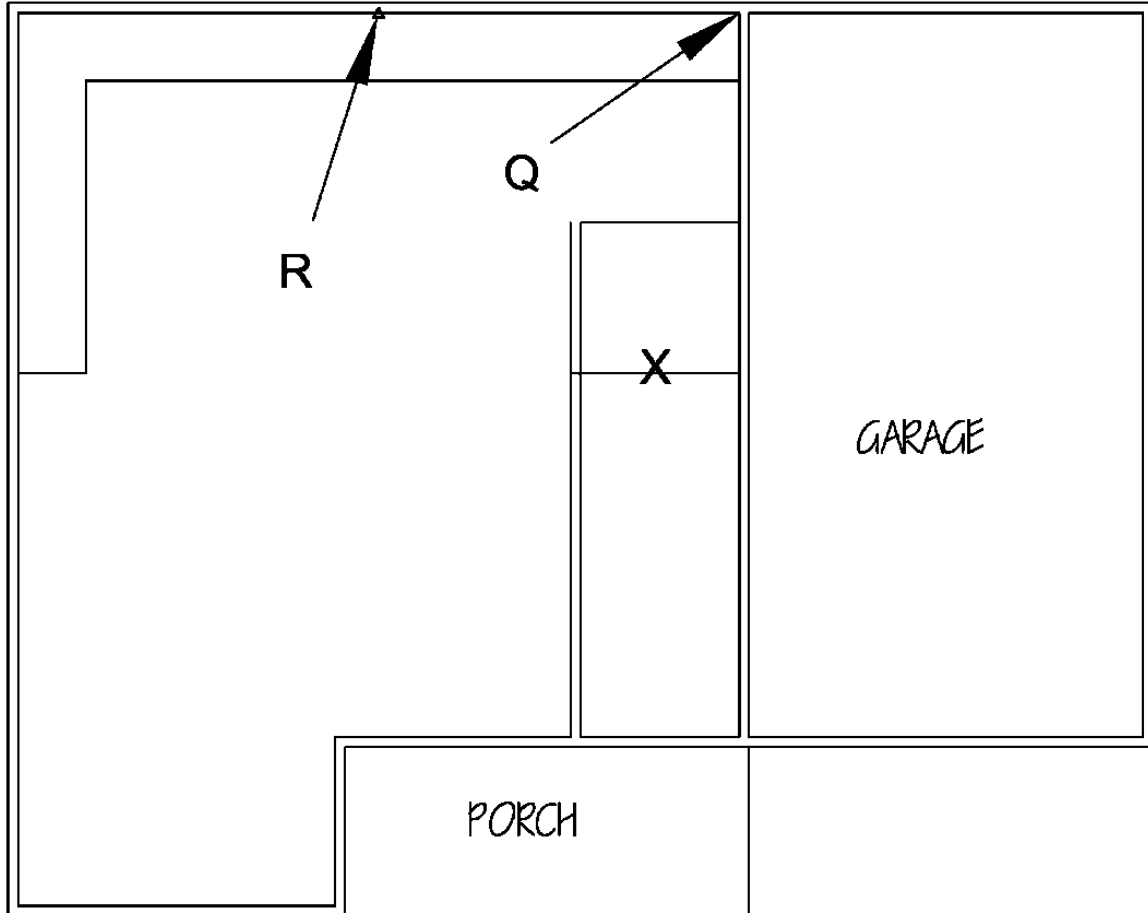

Fig 1-18
Click on **Trim <e>**. Trim the lines so that they look like **Fig 1-18**. If you make a mistake, use the Undo button and try again.
**Click** on the line marked with an **X** in Fig 1-18 and **erase** it.
Click on the **Line** button. Hold **down the Shift key on your keyboard and right click the mouse**. Click on the **From** selection. Now **click** on the inside corner point as marked **Q** in **Fig 1-18**. **Move** the cursor (now a cross) to the left along the horizontal line to point **R** and you will see a triangle icon (this is a snap object icon indicating the **midpoint** of this line). Do **not click on point R**, just let go of the mouse and let the cursor hover over the triangular Osnap icon. Type **7'5 <e>**. **Move the cursor down** the screen and **a line will appear** with a starting point at 7'5" from point Q. Pull the line down a ways, **do not click**. Type **3' <e>**. Hit **ESC**.